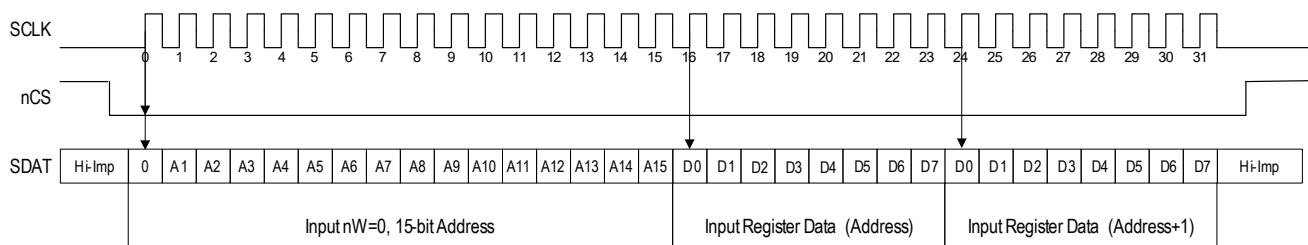

Figure 16. Logic Diagram: SPI 3/4-wire WRITE Data into Registers
**End of transfer:** After nCS is de-asserted to logic 1, the SPI bus is available to transfers to other slaves on the SPI bus. See also the READ diagram (Figure 15) and WRITE (Figure 16) displaying the transfer of two bytes of data from and into registers.